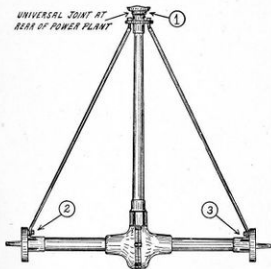

Figure 32.—The Triangular Drive System.
*The Triangular Drive.*—In order that the car may respond to the action of the steering wheels and that it may run straight ahead when desired, it is necessary that the outer ends of the rear axle and the rear wheels themselves be maintained at the same distance back of the car at all times and also in line across the length of the car. This distance is maintained by two long rods, one attached to each end of the rear axle and both running forward and toward the center of the car until they attach to the forward end of the propellor shaft housing just back of the universal joint and ball housing. An examination of Figure 32 will show that the rear axle and driving shaft form a unit which attaches to the main body of the chassis through the universal and the flexible ball joint surrounding the universal. This construction provides a form of drive in which the rear axle may assume